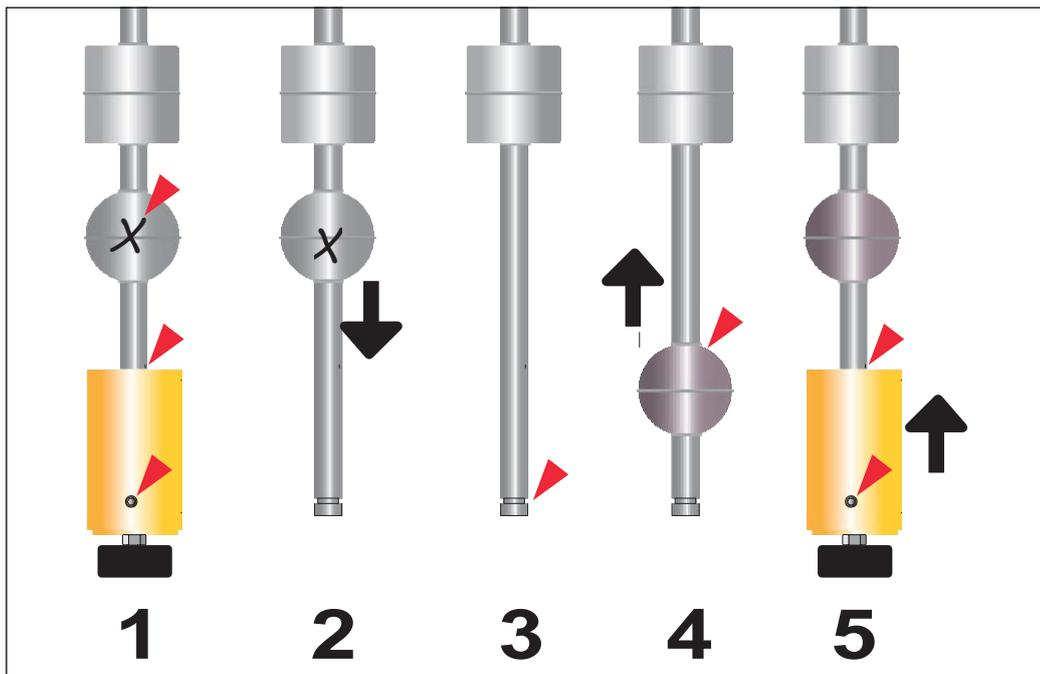

Figure 5: Install the Replacement Water Float
4. Loosen the 3 screws at the base of the weight with an 3 mm Allen key until the weight/magnet assembly can be removed from the probe tube (view 1 in Figure 5). Set the weight/magnet assembly aside being careful not to lose any of the 3 Allen screws from the weight or to damage the magnet.